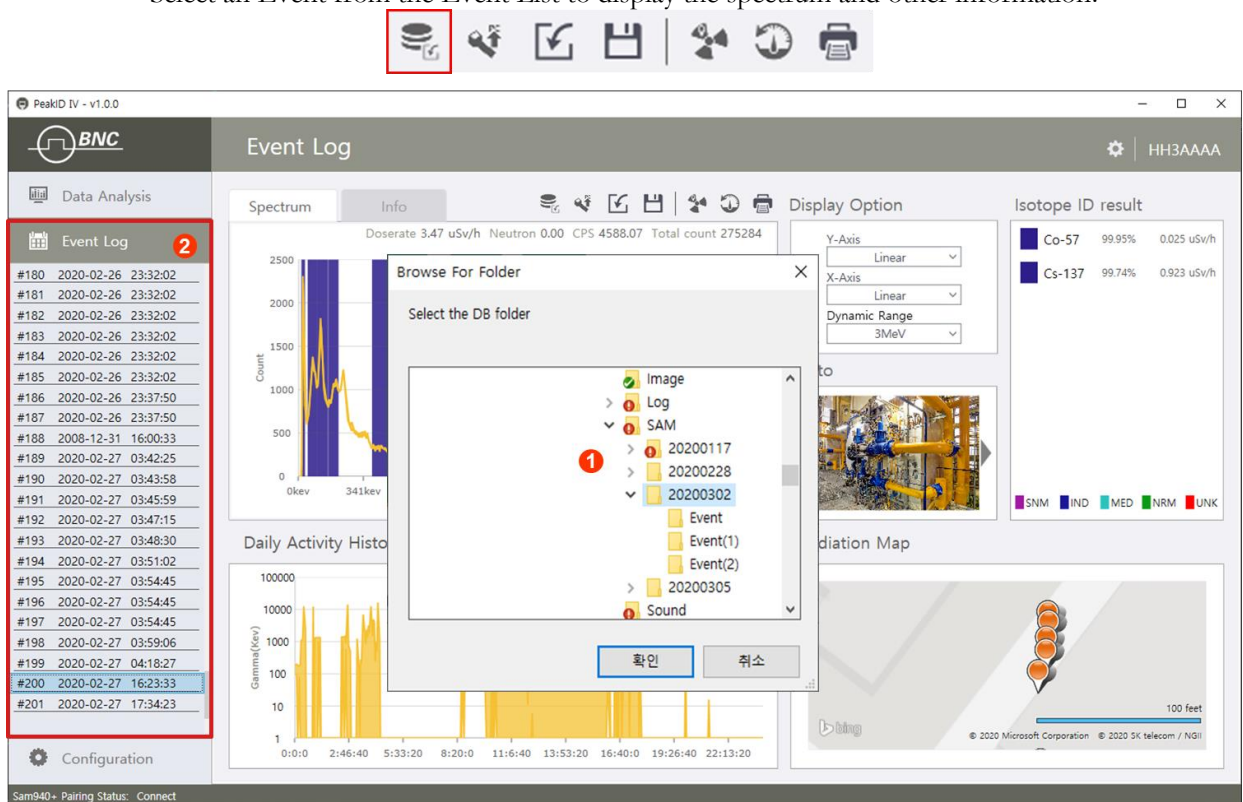

Figure 7.8.6. Load data from a PC database example
1. Click **Load from DB**  (Figure 7.8.6). The database browsing window pops up. ①
3. When a folder is selected, the Event(s) from that folder will appear in the Event List area ②. Select an Event from the Event List to display the spectrum and other information.